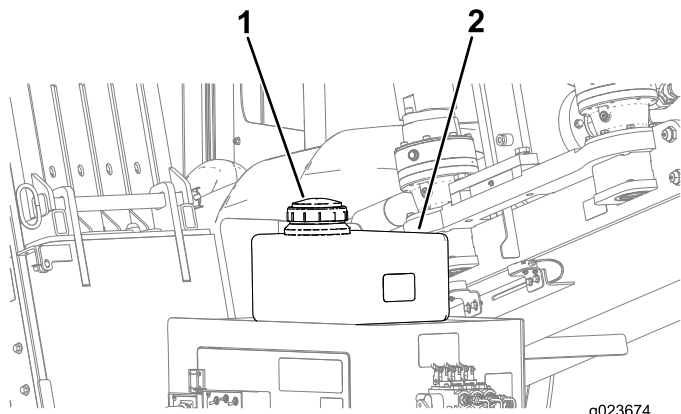

Figure 159
- C. Remove the cap from the antifreeze tank for the drilling-fluid pump (Figure 159).
D. Ensure that the tank is full of antifreeze (Figure 159).
D. Add antifreeze to the tank as needed (Figure 159).
5. Install the cap onto the antifreeze tank (Figure 159).